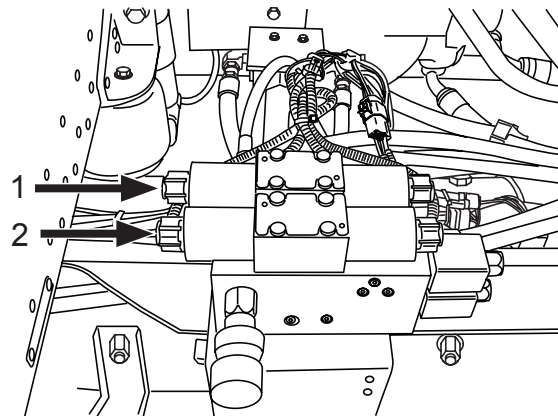

Figure 54
6. Manually shift the start/stop valve spool by pressing in on the end of the spool (Figure 54, Item 1).
7. Engage the Bridgemaster axle function by manually shifting the start/stop valve spool (Figure 54, Item 2).